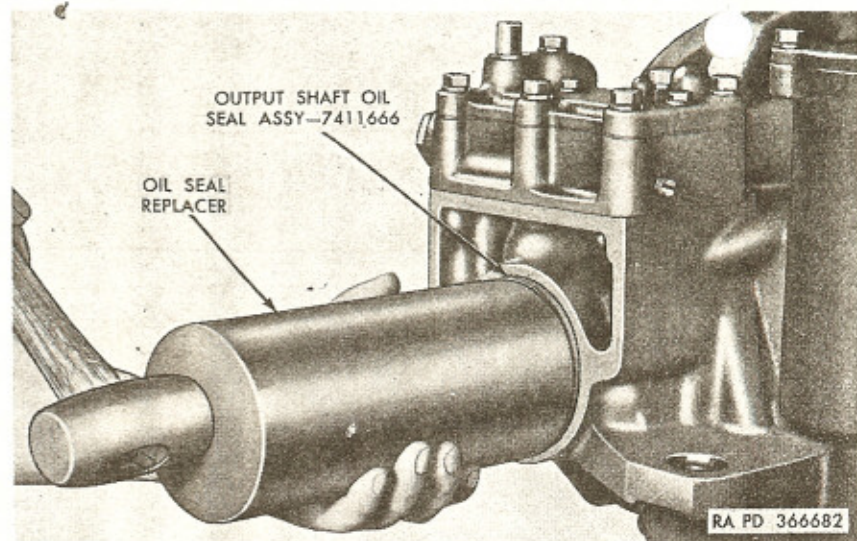

Figure 173. Using replacer—B7950063 to install reduction unit output shaft oil seal.
- (6) Install new output shaft oil seal assembly (N), using replacer—B7950063 (fig. 173).